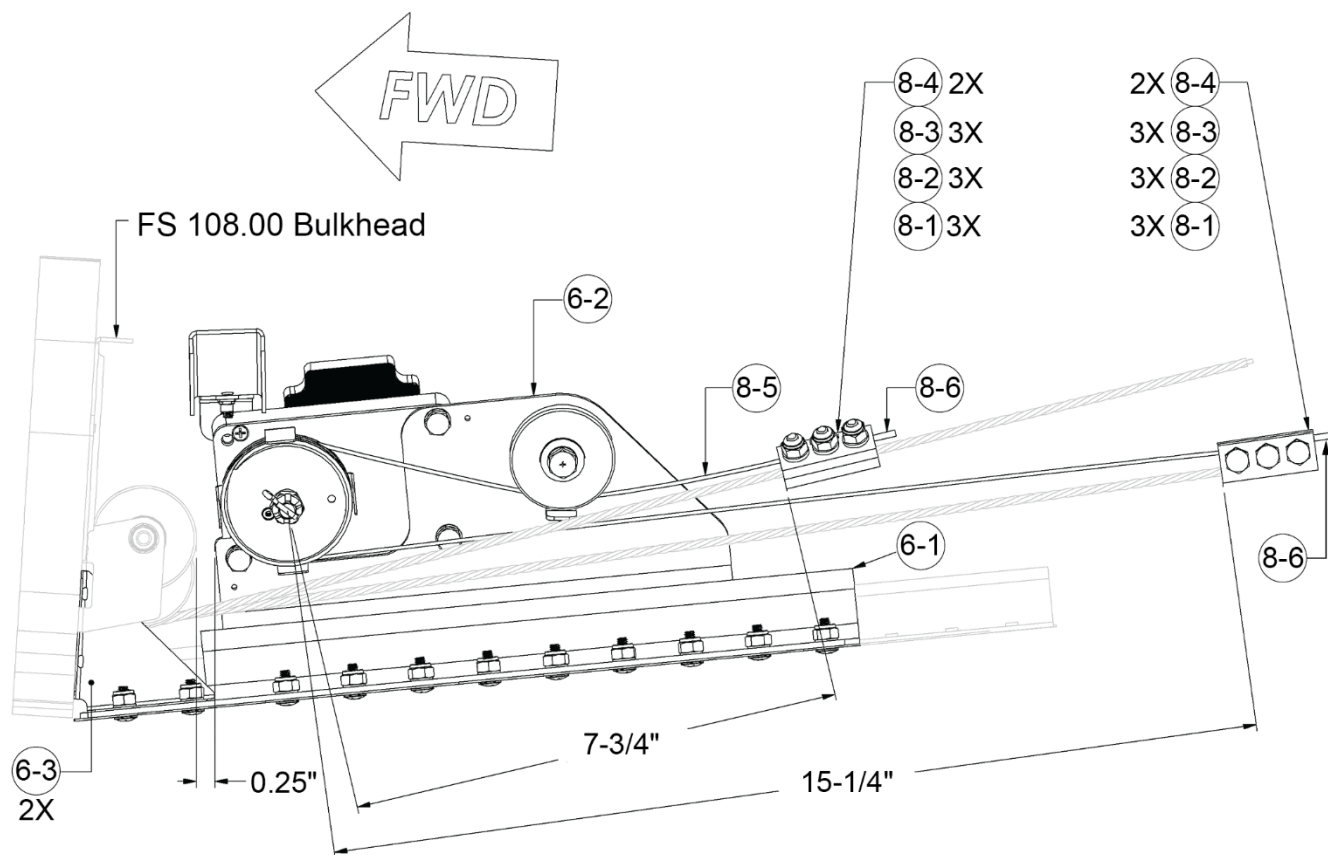

Figure 27: Connecting Bridle Cable to Lower Elevator Control Cable
6. Use bridle cable clamps to loosely connect bridle cable ends to lower elevator control cable, as shown in Figure 27.
8. Slide a swage stop onto one end of bridle cable, and then position it per specifications in Figure 27.
- Position of bridle cable clamps closely matches Figure 27.